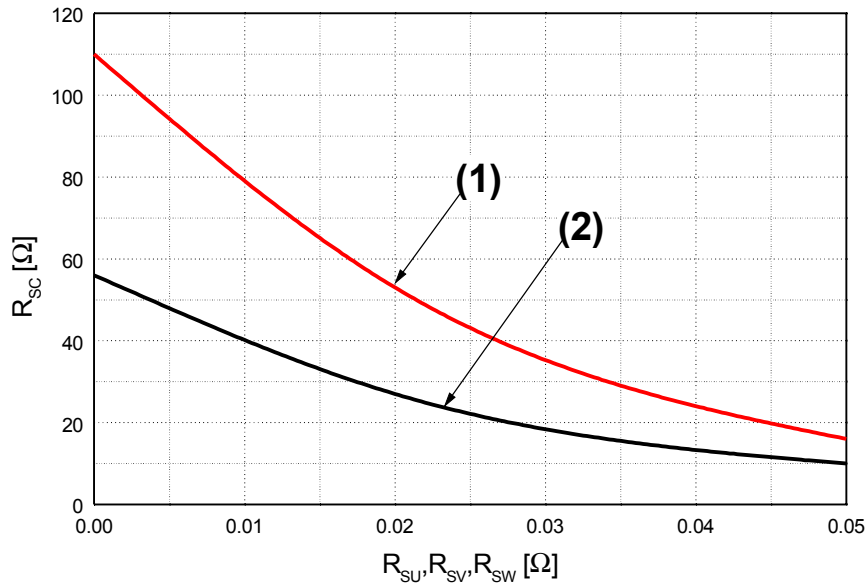

Fig. 7. R_{SC} Variation by change of Shunt Resistors (R_{SU}, R_{SV}, R_{SW}) for Short-Circuit Protection
- Short-circuit current protection is functioning only at the low-sides. It would be recommended that the value of the external sensing resistor (R_{SC}) should be selected around 56 Ω in order to make the SC trip-level of about 45A at the shunt resistors (R_{SU}, R_{SV}, R_{SW}) of 0Ω. For the detailed information about the relationship between the external sensing resistor (R_{SC}) and the shunt resistors (R_{SU}, R_{SV}, R_{SW}), please see Fig. 7.